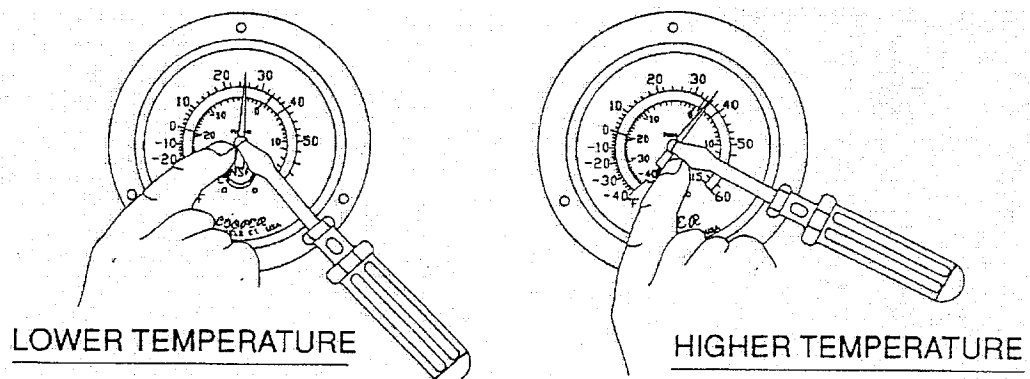

Figure 4.1 – Thermometer Calibration
- e. To recalibrate the thermometer, remove it from the cabinet. Using a small, flat screwdriver, remove the lens. Prepare an ice water bath and immerse the thermometer bulb at least two inches into the ice bath. Within 30 seconds the indicator dial should read 32 degrees Fahrenheit. If it does not, it needs to be recalibrated. Do this by placing your index finger on the opposite side of the needle that needs to move. Then, using a flat screwdriver, turn the screw at the center of the dial $\frac{1}{4}$ of a turn in the direction you want to move the dial. Repeat the procedure until the needle is on 32 degrees. See Figure 4-1 below for an illustration.